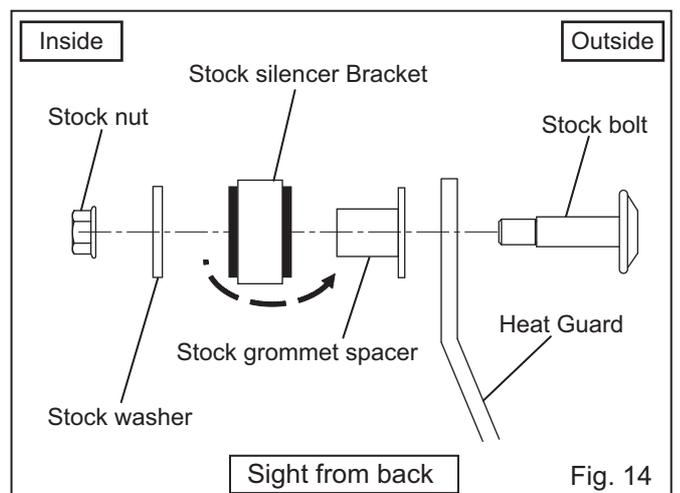

Fig. 14
- 12) Take off stock grommet spacer which is mounted from vehicle side and remount it from outside (See Fig. 14).